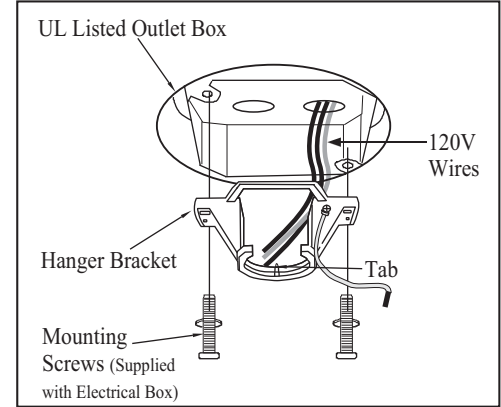

Figure 10
- Pass the 120-volt supply wires through the center hole in the hanger bracket as shown in Figure 10.
- Install the hanger bracket on the outlet box with the screws and washers provided with your outlet box (Figure 10).